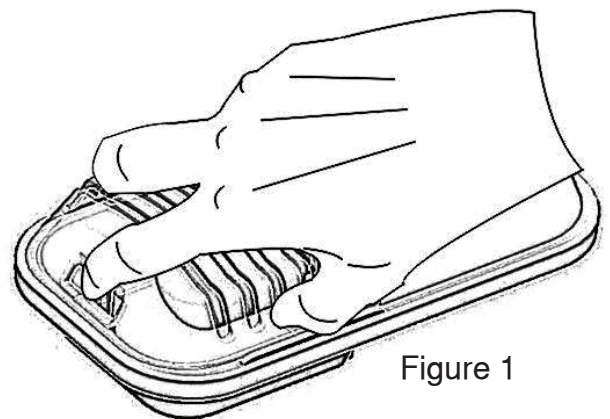
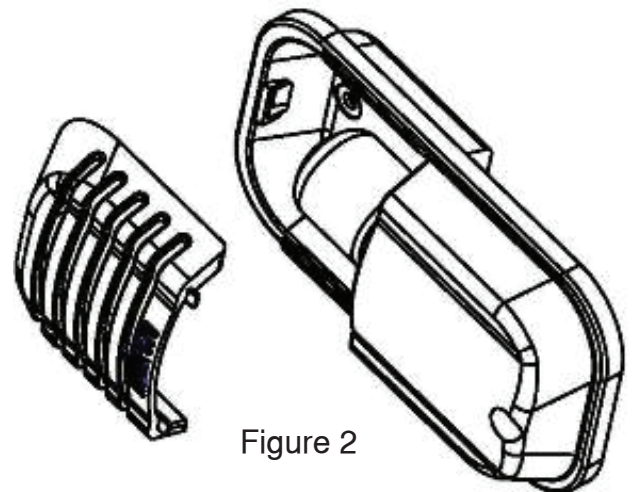

Figure 1
Figure 2
2. Press the hook in front of the light cover to remove it (see Figure 1 and Figure 2).